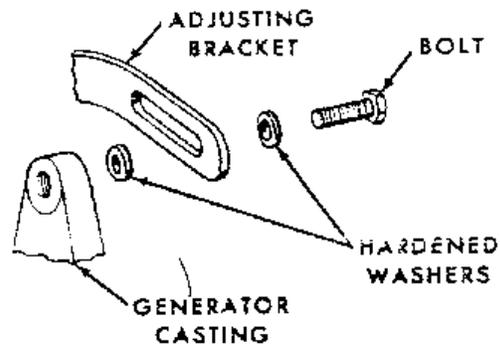

Figure 3
3. Adjust the belt (or belts) to the proper tension, and tighten the adjusting bracket bolt to the torque specified in the table. Also, as specified in the table, use a washer under the bolt head, and a washer between the adjusting strap and generator casting. (Figure 3)